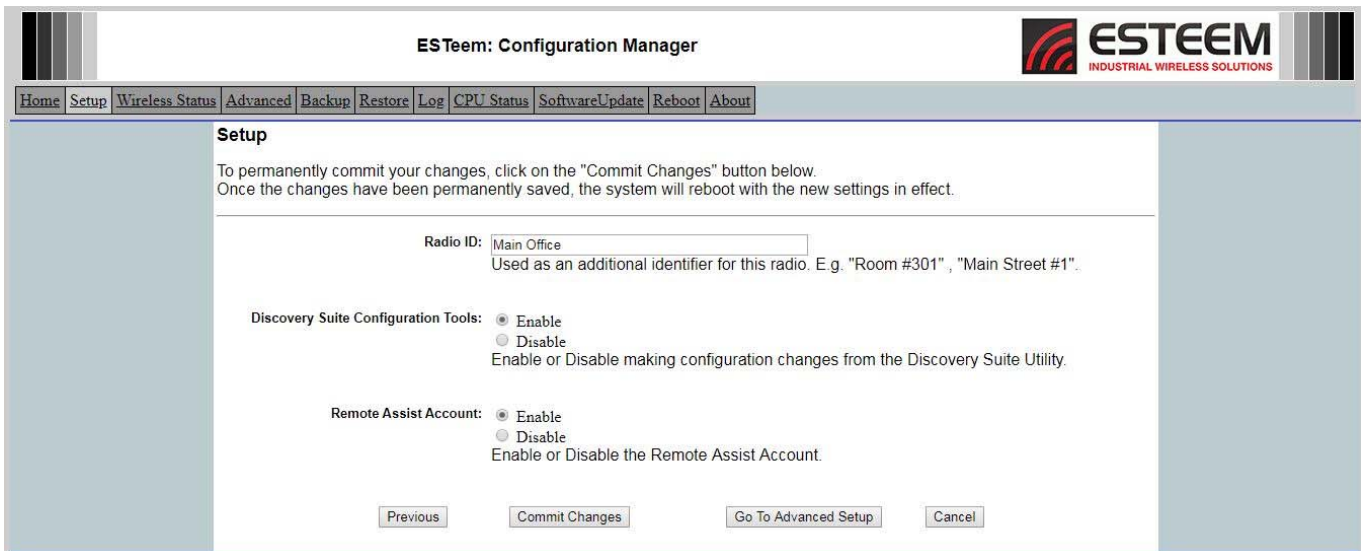

Figure 23: Completed Peer Entry
15. The final configuration page will be displayed (Figure 23). The Radio ID is a simple text name for the radio that will help identify it in the larger network. The Discovery Tools and Remote Assistance can be disabled if required for security. Once all entries and selections have been made, press the “Commit Changes” button to complete the programming of the Horizon. The radio will reboot and be ready for operation in approximately 45 seconds.